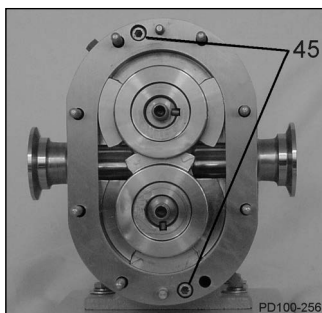

Figure 37 - Location of Cap Screws
1. Remove the two body retaining cap screws (Figure 37, item 45).